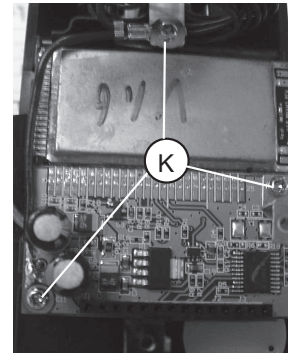

Figure 13
- 1) Loosen 3 screws "L" as shown in figure 13